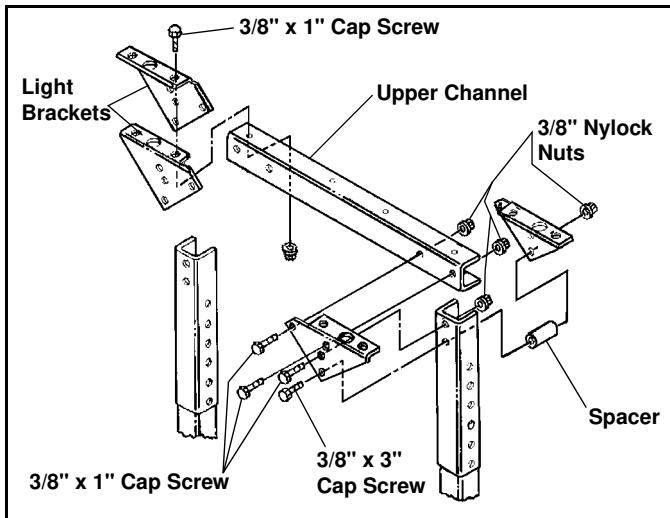

Figure 6
3. Attach pair of Light Brackets (#36) and (#37) to each end of Upper Channel with six (6) 3/8" x 1" Cap Screws (#19), and Nylock Nuts provided. (See Figure 6)
4. Attach Light Brackets/Upper Channel assembly to Mounting Channels with two (2) 3/8" x 1" Cap Screws (#19), and two (2) 3/8" x 3" Cap Screws (#21), and Nylock Nuts provided. Use two (2) Spacers (#29) between Light brackets and channel on long Cap Screws. (See Figure 6)